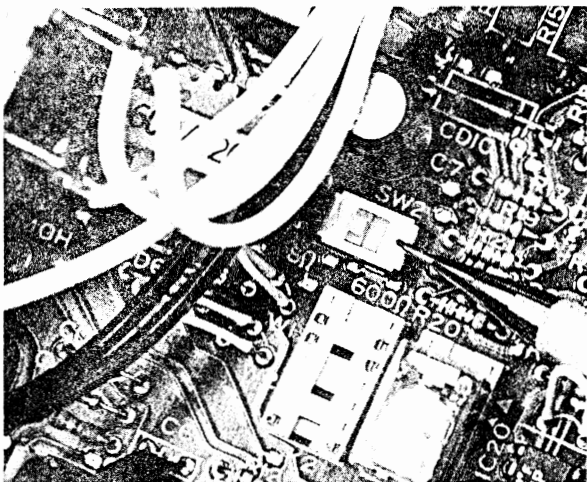

FIGURE 6
05.03 External page impedance is selected with the SW2 switch located adjacent to the relay sockets on the MTOU PCB (Figure 6). Decide if 8- or 600-ohm impedance is required, then make the selection by positioning the SW2 switch to "8" or "600", whichever is required. Figure 6 shows the switch in the 8-ohm position.